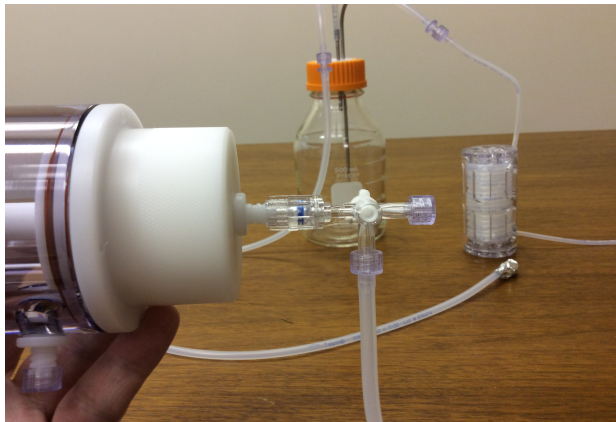

Figure 5
3. Remove the protective foil cover from one end of the tubing and attach to the rotary coupling on one endcap. Repeat the process on the other endcap. (Figure 5)